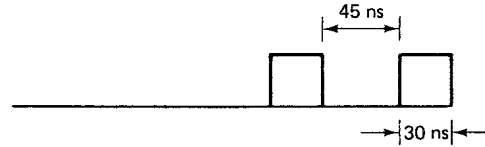

Fig. 5-11
- 5.3 A pulse train is transmitted along a transmission line which is 200 meters long. The pulse train consists of pulses with a duration of 30 ns each and separated by 45 ns. How many pulses can be on the line at any given time? Assume the speed of E/M waves to be the same as in free space. See Fig. 5-11.